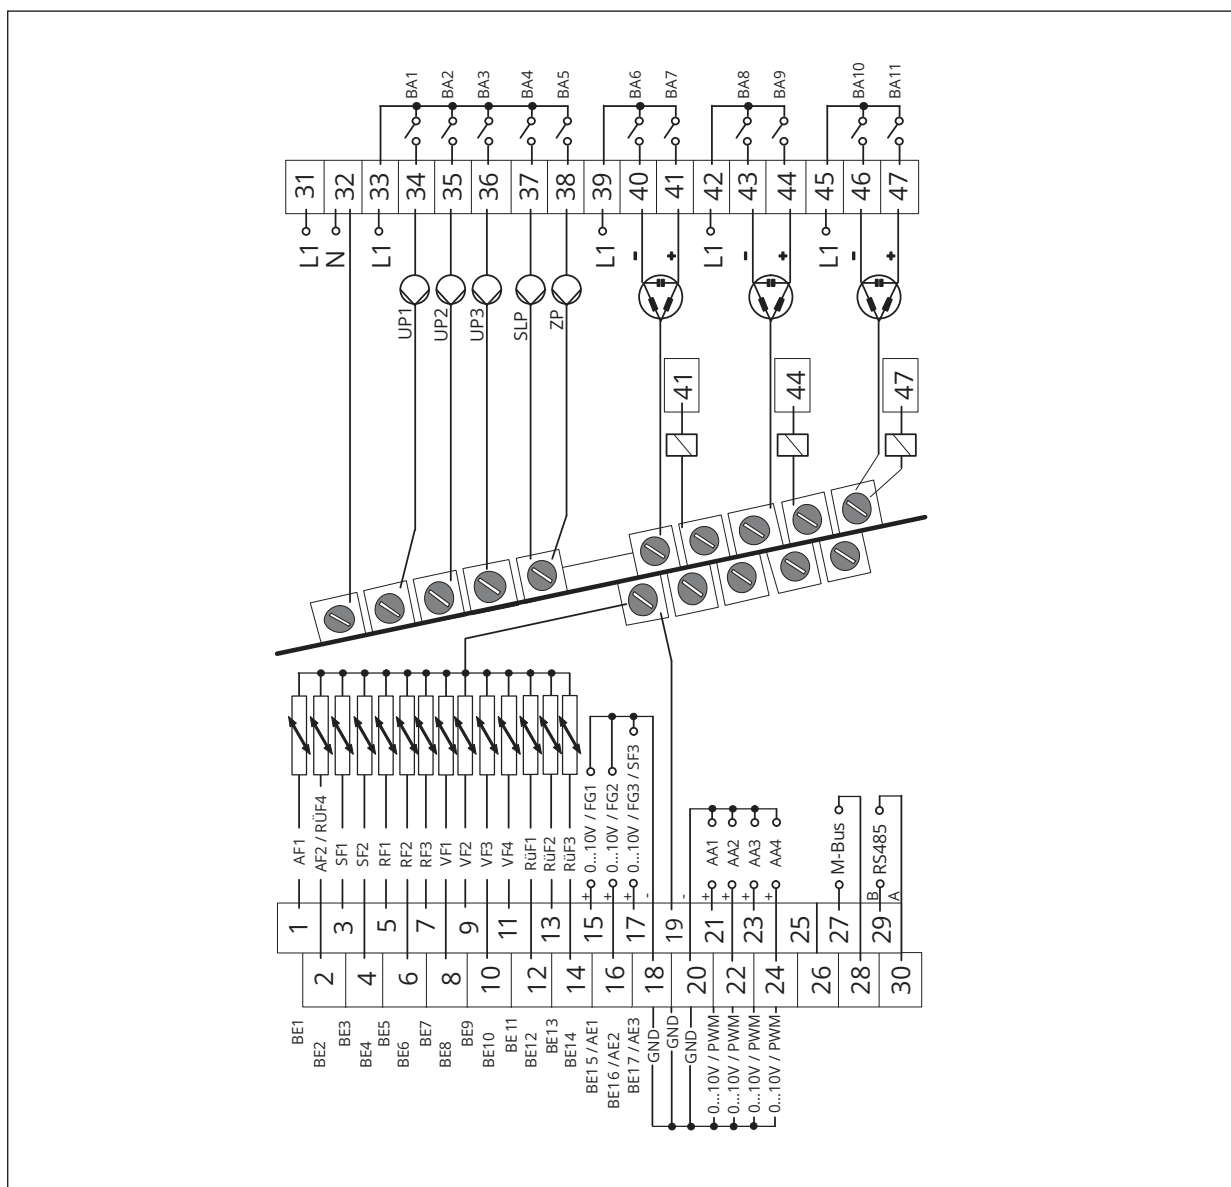
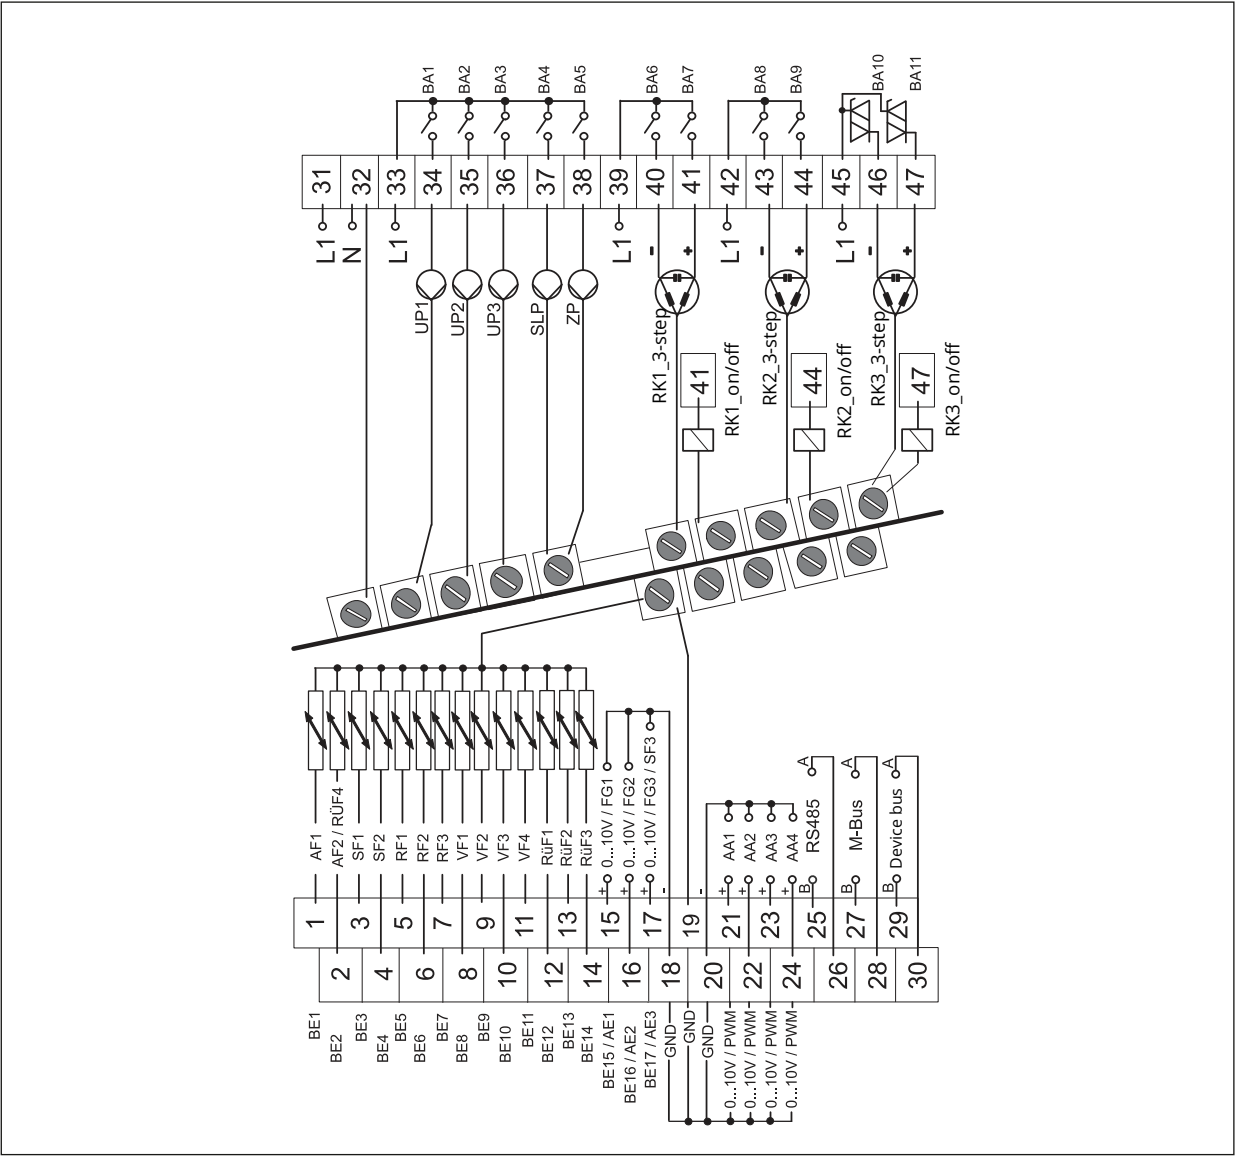

Fig. 3: Electrical connection · TROVIS 5578-1113
Fig. 4: Electrical connection · TROVIS 5578-1114
- ⇒ Connect the wiring as shown in Fig. 3 (TROVIS 5578-1113) or Fig. 4 (TROVIS 5578-1114).